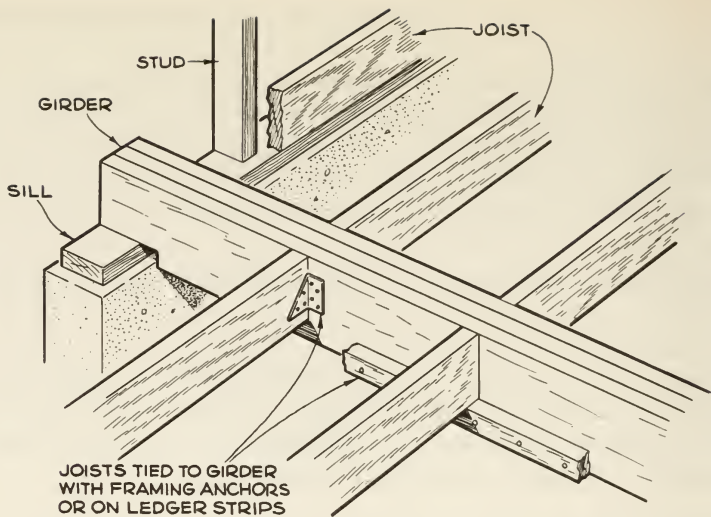
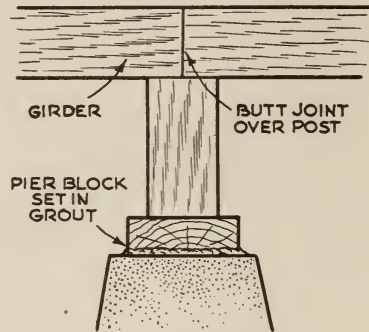
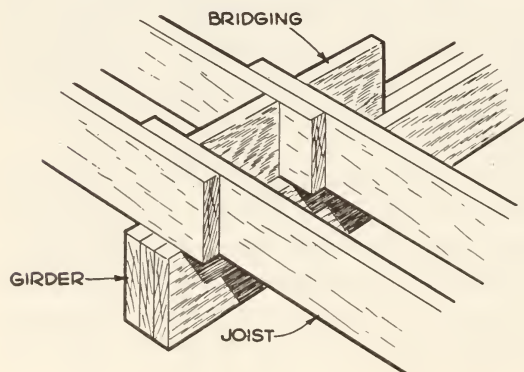

Fig. 3. Girder built up of 2-by-6s. Two methods are shown of tying joists to girder.
Fig. 7. Girder joined over 4-by-4 post set on concrete pier.
Fig. 9. Joists resting on top of girder are overlapped, braced with solid bridging.
**Built-up Beams and Girders.** When heavy timbers aren't available, or command a premium price, you can build up beams and girders by nailing together lengths of 2" stock. Use 16d nails, driving them in two rows along the top and bottom edges and about 32" apart. Carriage bolts spaced 24" apart, with washers under the nuts, are even better. Built-up girders are preferably installed with the faces of their component members vertical, for best load resistance (Fig. 3).
When foundation pockets are not practical, and in balloon frame construction, girders are set on the sill but notched at the bottom, if necessary, to bring their top surface level with that of the joists (Fig. 3). At least 4" of the end of a girder should bear on its support. Joints in girders should be avoided if possible; if used, they should be over a supporting post (Fig. 7).
When the top of the girder is at joist level, the joists must be supported on ledger strips nailed along the bottom of the girder as in Fig. 3, or with metal framing anchors or saddles as shown. If the girder is at sill height, joists simply rest on top of it. They should be cut long enough to overlap about 12", and nailed to each other as well as to the girder (Fig. 9).